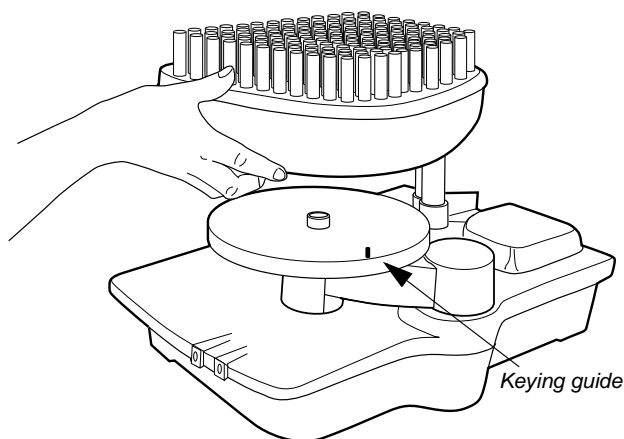

Figure 2-8. *Fitting the rack to the rack holder*
- 2 Fit the rack to the rack holder using the keying guide on the holder to position it correctly, see Figure 2-8. Turn the rack on the holder until it snaps firmly in position.